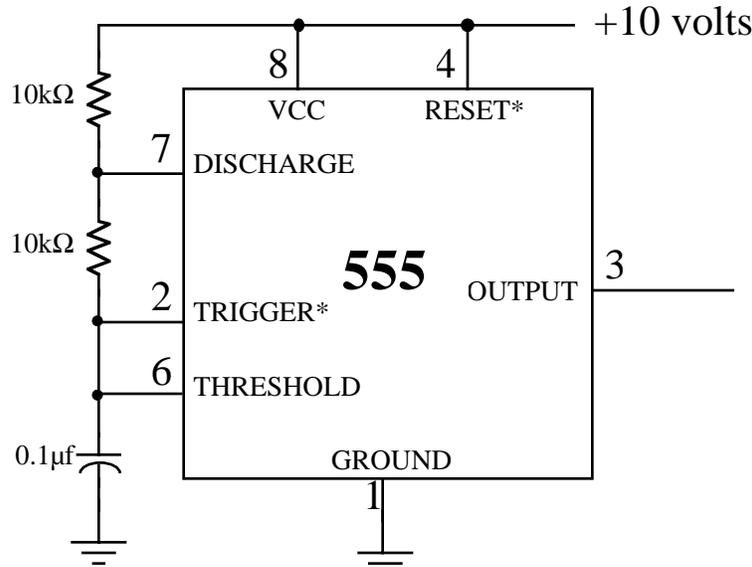

Figure 3. 555 astable oscillator
The 555 and similar chips have made the design of relatively complex circuits such as an oscillators relatively easy. An RC circuit connected to the 555 as shown in Figure 3 alternately charges and discharges. The frequency of these changes (the oscillation frequency) is claimed by the manufacturer to be approximately given by
- Construct the 555 relaxation oscillator shown in Figure 3.